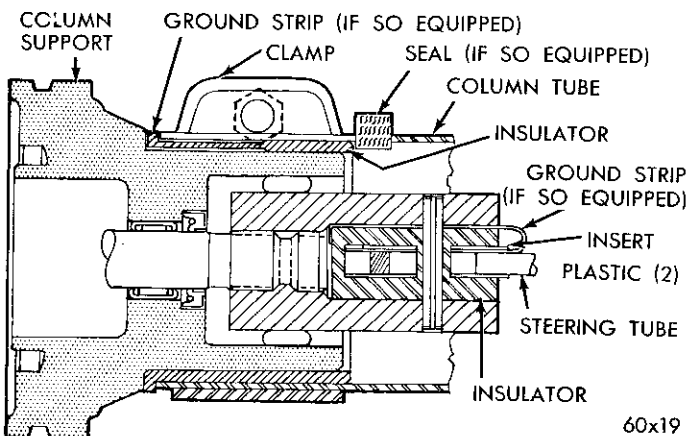

Fig. 45—Jacket Tube Installation
(2) Enter the steering gear assembly into the engine compartment and through the opening in the floor panel. Install the housing attaching bolts, flat washers, swivel washers and nuts, but do not tighten. The swivel washer permits alignment of the housing to the dash.
(3) Inspect the jacket bearing snap ring in the steering tube lower groove. Install a new ring if the old ring will not fully seat in the groove. Install the spacer washer, spring and tapered spacer on top of the snap ring.
(4) Assemble the horn ground strap (copper) to the jacket tube support rubber insulator boot and install this assembly into the lower end of the jacket tube (Fig. 45).
(5) Lubricate (powder lubricant) the end of the steering gear column jacket support and insulator boot to facilitate installation and slide the jacket tube and insulator boot assembly down against the shoulder on the jacket tube support. Tighten the clamp bolts securely.